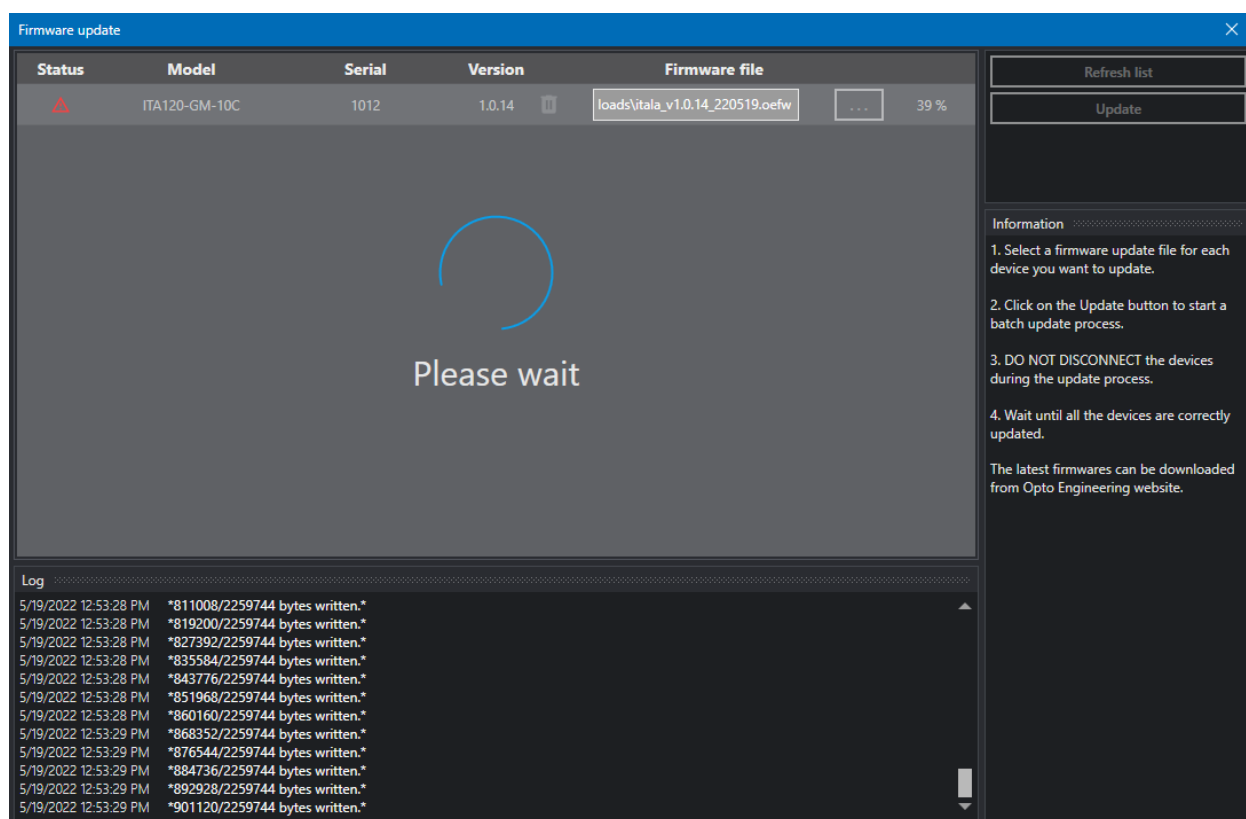

Figure 20: FW update in progress.
3. **Do not disconnect or power down** the devices during the update process (Fig.20). The LED blink signals that the camera is writing to the flash memory.